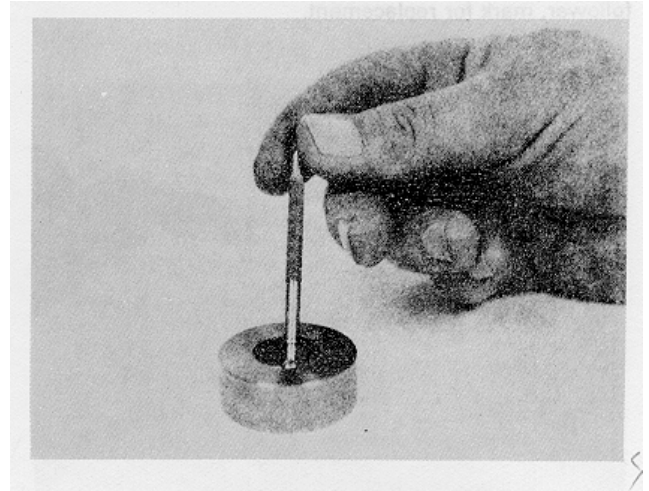

Figure 16F-9. Check the Cam Roller Inside Diameter
9. Use the micrometers to measure the outside diameter of the rollers, Figure 16F-10. If worn smaller than 1.622 inch (41.20 mm) or otherwise damaged, mark for replacement.